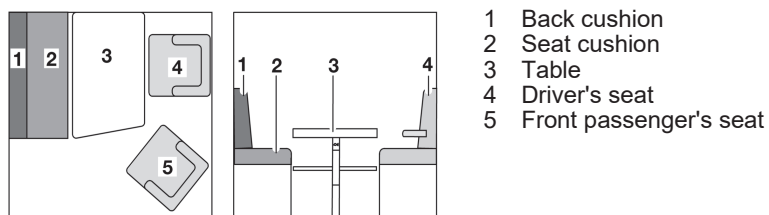

Fig. 58 Prior to conversion
- Turn the driver's seat (Fig. 58,4) so that the backrest faces the driver's door.
- Turn the front passenger's seat (Fig. 58,5) so that the backrest faces the front passenger's door.
- Convert the table (Fig. 58,3) to a bed foundation (see Section 7.8).